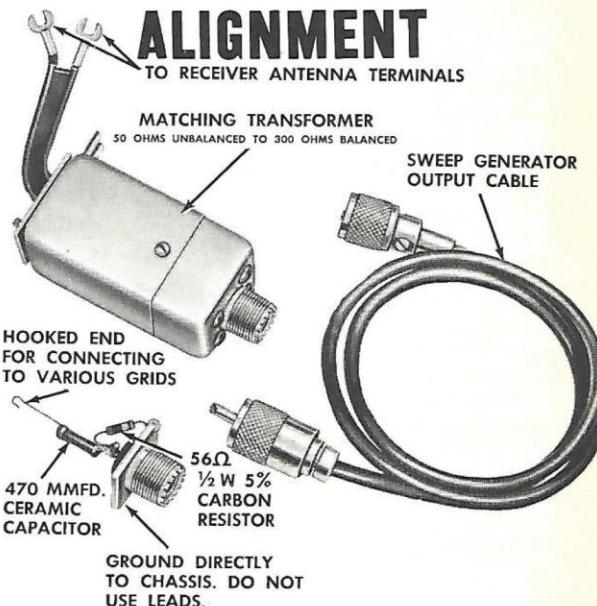
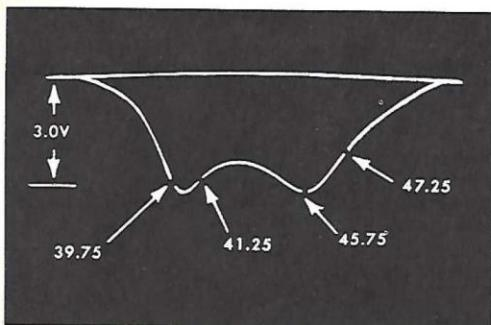

Fig. 4 IF-RF Alignment Fixtures
Fig. 5 4th IF Response
3. Feed the sweep generator through the special terminating network shown in Fig. 4 to point "G" (Pin 1 of the 3rd IF). Adjust generator to obtain a response similar to Fig. 5 with a detector output of 3 volts peak to peak. Do not exceed this level during any of the adjustments.
4. Set the marker generator to 45.75 Mc and alternately adjust the top and bottom cores of the 4th IF for maximum gain and symmetry with the 45.75 Mc marker positioned as shown in Fig. 5. The 39.75 Mc
3. Use a matching transformer (50 to 300 ohms) similar to Fig. 4 and feed the output from the sweep generator to the antenna terminals of the tuner.
3. Feed the sweep generator to the antenna terminals. Use a matching transformer similar to Fig. 4.
3. Use a matching transformer (50 to 300 ohms) similar to Fig. 4 and feed the output from the sweep generator to the antenna terminals of the receiver.